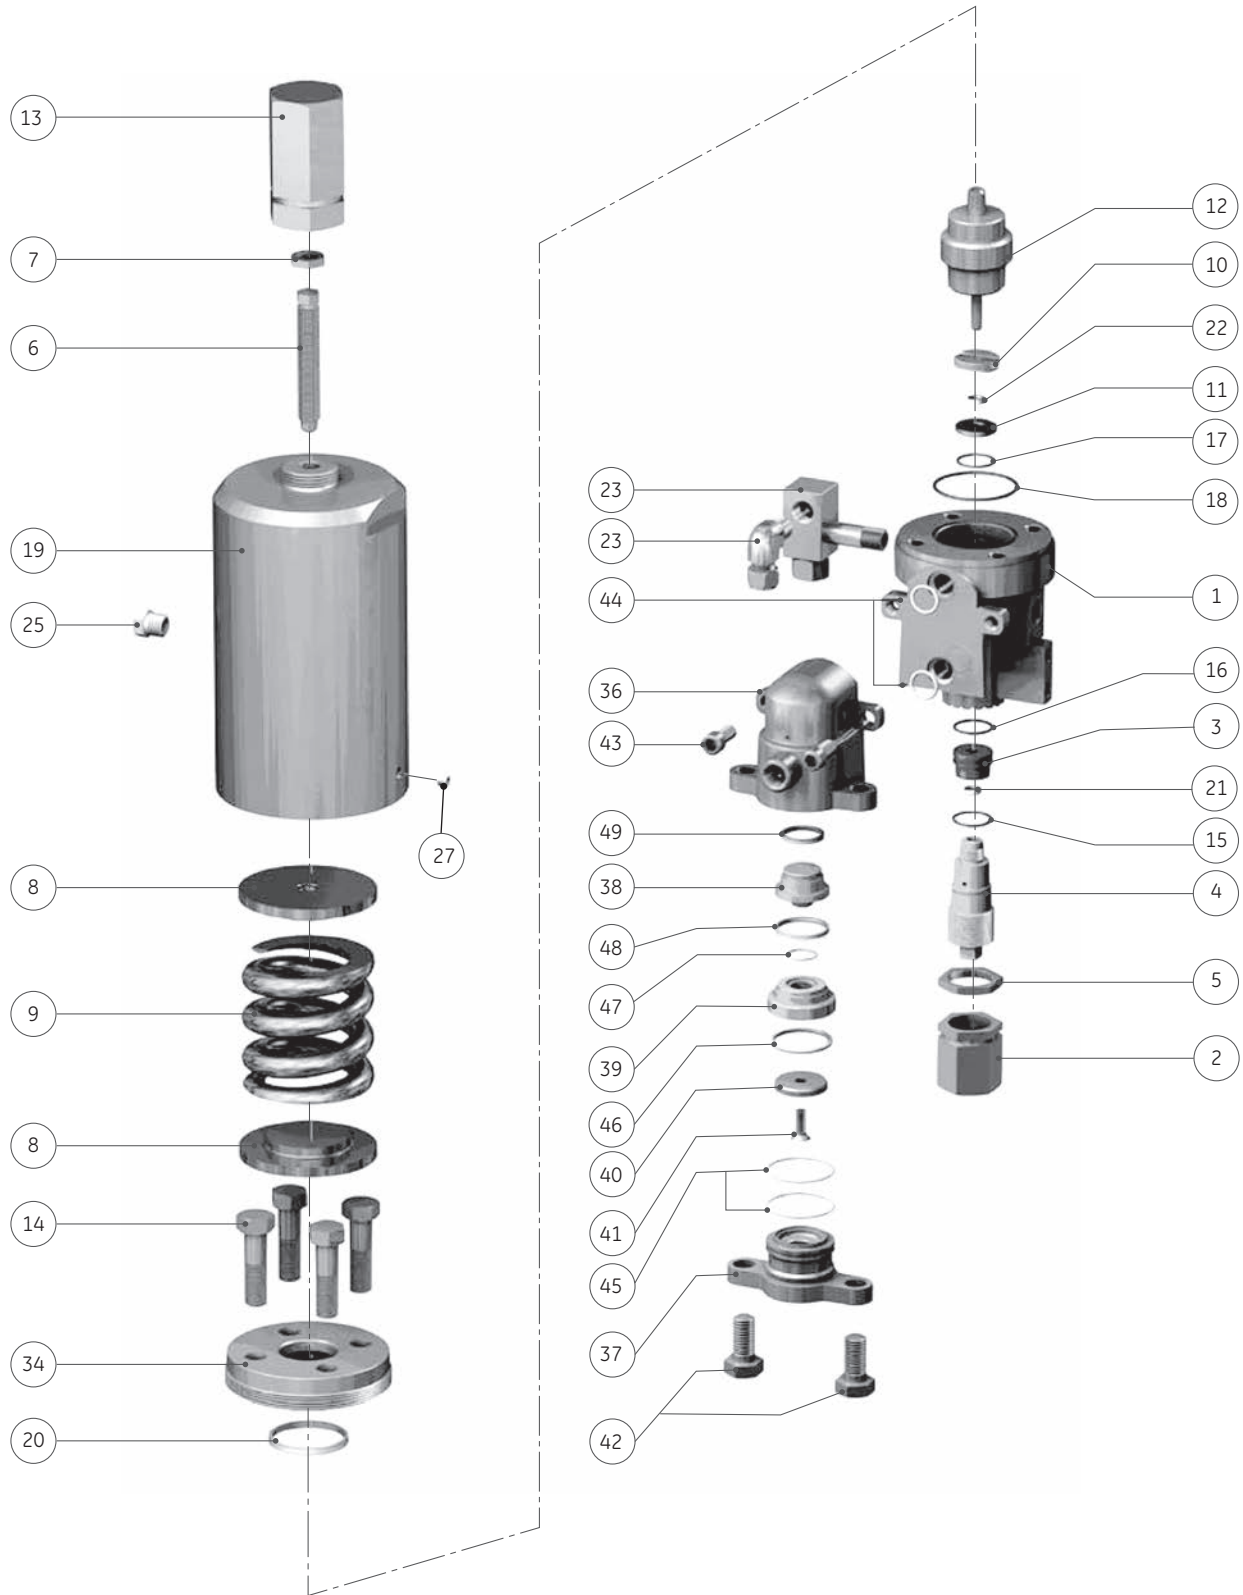

Figure 45: 39MV07 Disassembly
3. If a lifting lever is installed, also use Figure 44 to remove the Lifting Lever assembly. Then return to Figure 45 to continue disassembly.